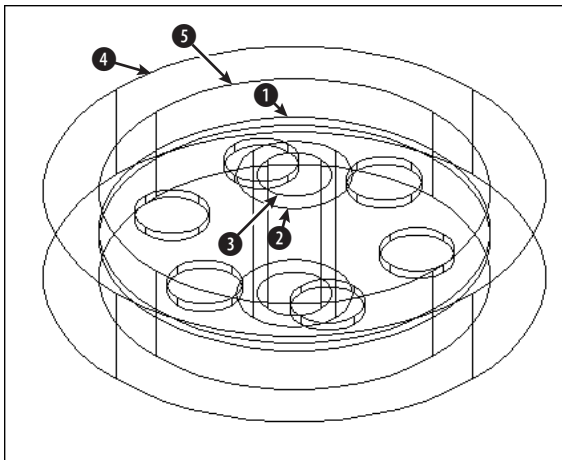

Figure 24-17: These solids are the basis for the model.
- Save the file as ab24-03.dwg in your AutoCAD Bible folder. Make sure OSNAP is on. Set running object snaps for endpoint, midpoint, and center. This drawing is measured in millimeters. The solids have been created by drawing circles, using EXTRUDE, and moving the solids to the proper Z coordinate. The result is shown in Figure 24-17.
Select objects: *Select the central plate at 1 in Figure 24-17.*